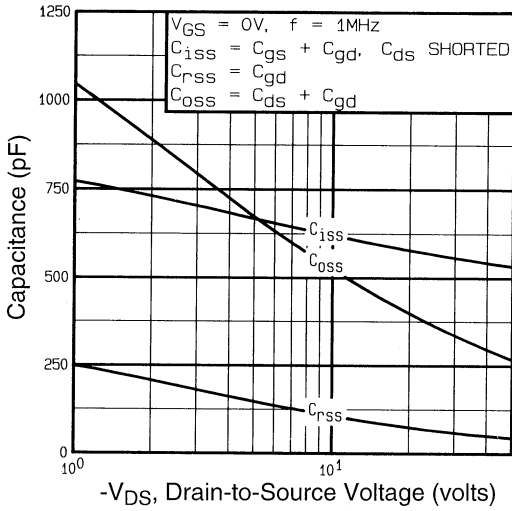

Fig 5. Typical Capacitance Vs. Drain-to-Source Voltage
| C_{rss} | Reverse Transfer Capacitance | — | 65 | — | | $f = 1.0\text{MHz}$, See Fig. 5⑤ |